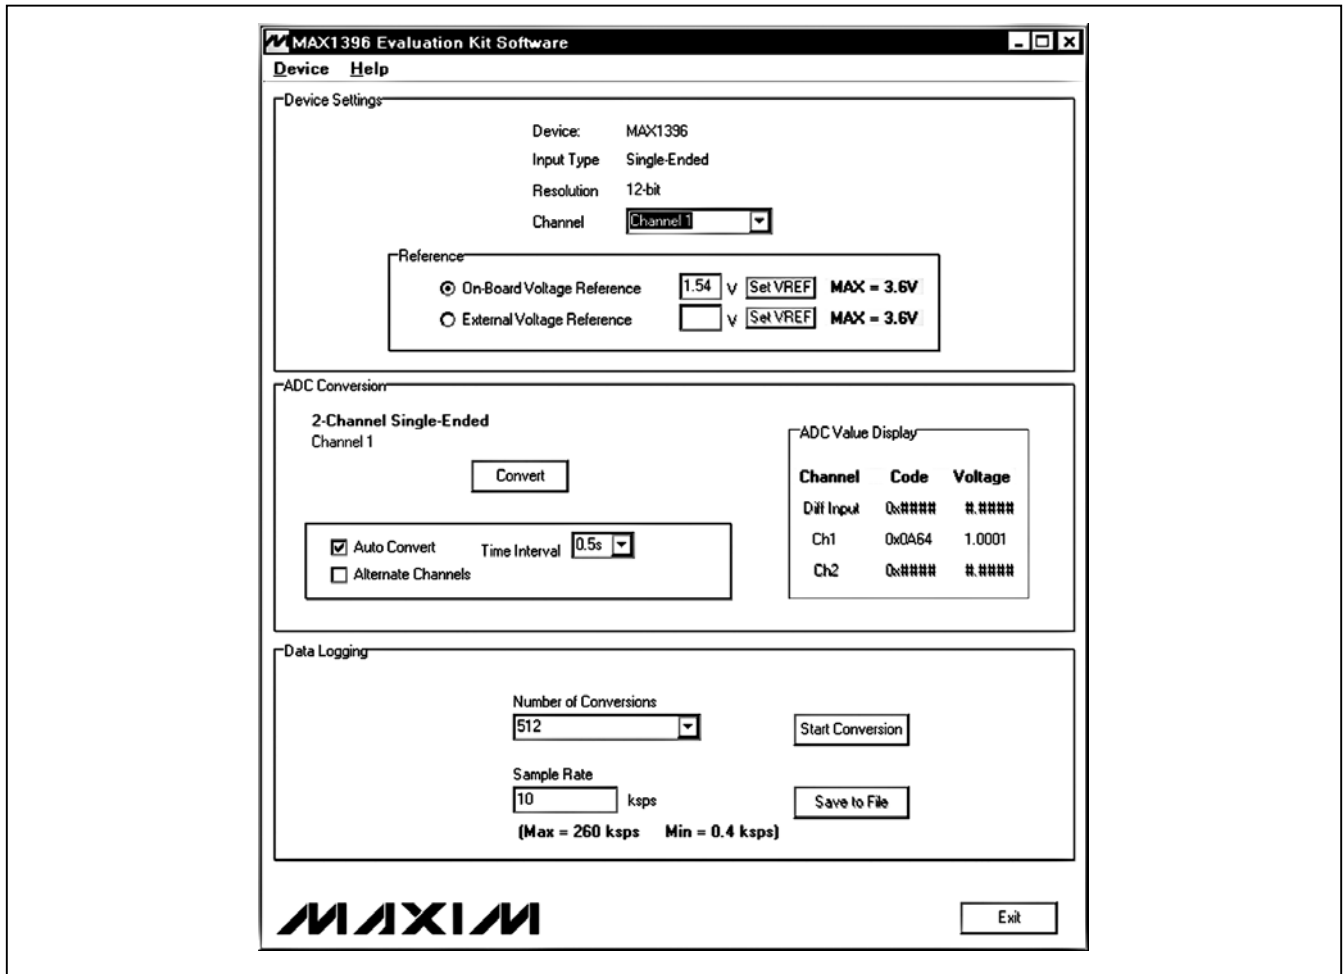

Figure 1. MAX1396 Evaluation Kit Main Window
- 8) Wait until the program automatically detects the MAX1396 hardware and displays the user-interface panel (Figure 1).
The evaluation software's window is shown in Figure 1. The **Device Settings** box located at the top of the window contains IC information, mode/channel selection, and a **Reference** box. Functions that relate to reading the ADC values in the **ADC Conversion** box are located in the middle section. Data logging functions are in the **Data Logging** box located at the bottom of the main window.